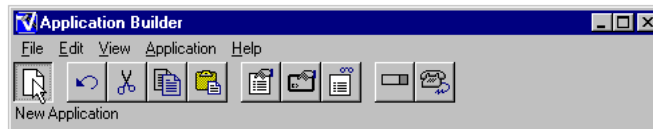
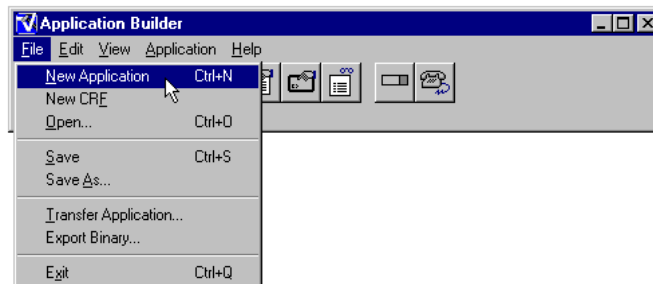

Figure 3-2 Application Builder Toolbar - New Application Button
Figure 3-3 File Menu - New Application Command
3. Click the **New Application** button on the toolbar (Figure 3-2) or choose **New Application** from the **File** menu (Figure 3-3) or type **Ctrl+N**.